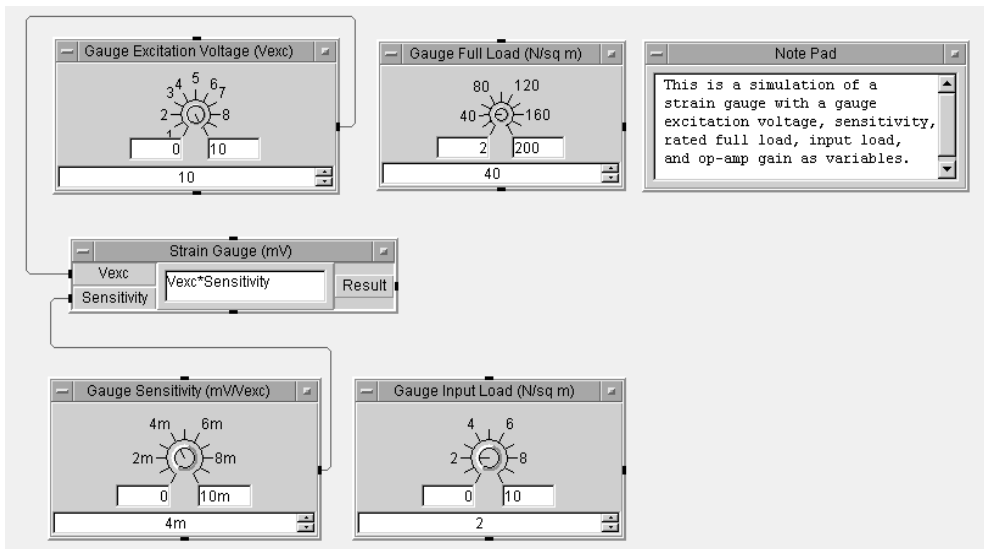

Figure 12.3. Strain Gauge simulation; initial construction
9. Add a Data Input Terminal. Change the A data-input terminal name to: Vexc, change the B data-input terminal name to: Sensitivity. Change its formula to read: $V_{exc} * Sensitivity$. Change its title bar to Strain Gauge (mV). See Figure 12.3.
10. Connect the output pin of Gauge Excitation Voltage to the Vexc input pin of Strain Gauge Output; connect the output pin of Gauge Sensitivity to the Sensitivity input pin of Gauge Output. See Figure 12.3 to verify your connections.